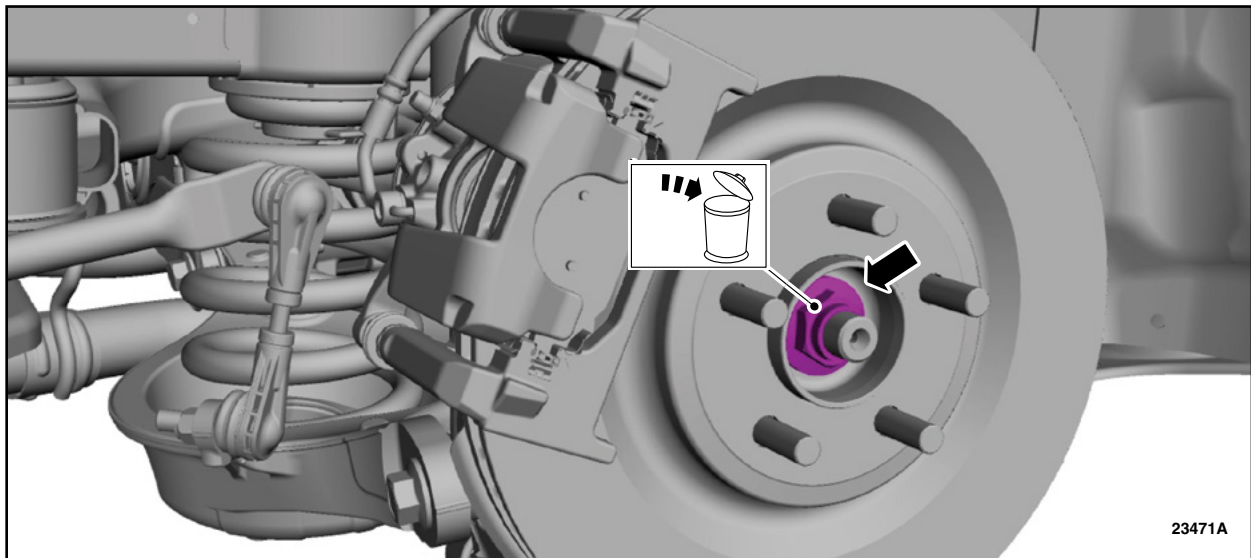

FIGURE 2
5. Remove and discard the LH rear wheel hub nut. See Figure 2.